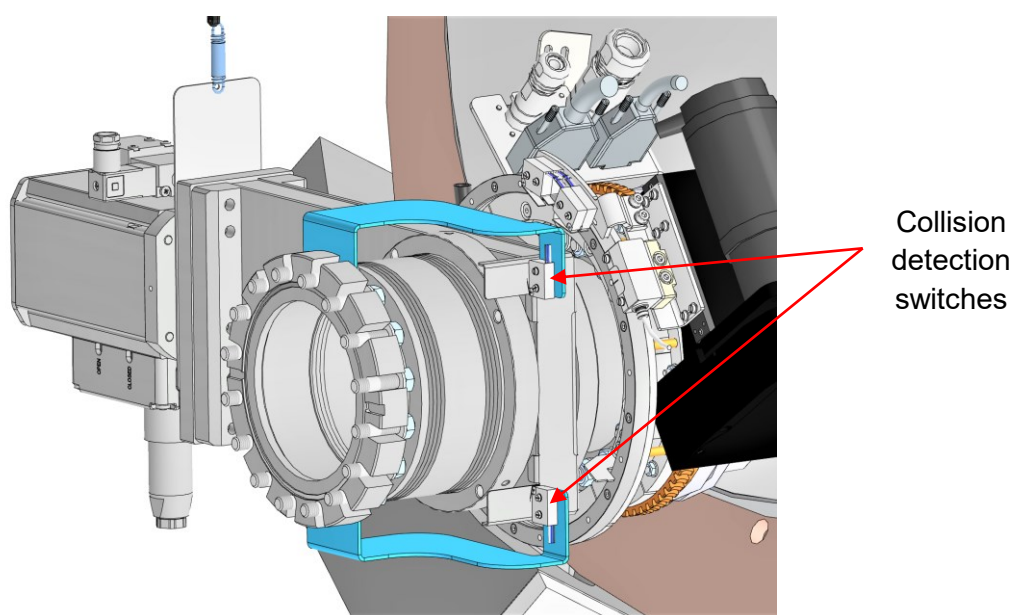
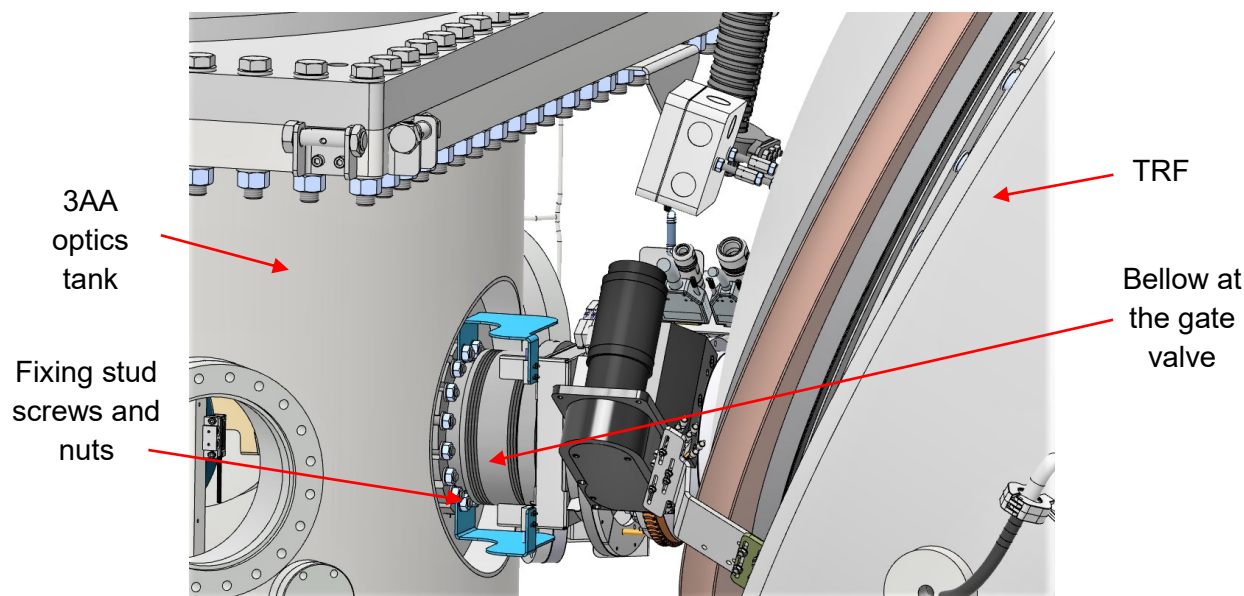

Figure 38: Collision detection switches at the TRF3 motion axis
Figure 39: Connection between the TRF and 3AA optics tank
23. Mount the two metal sheets that hold the collision detection switches (turquoise in Figure 38) using four of the nuts fixing the gate valve bellow to the 3AA chamber, see Figure 39.